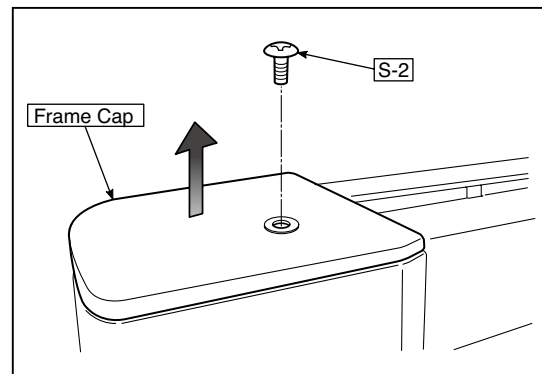

Fig.9
### 3) Remove the Frame Cap. (See Fig. 9.)
- 1.Remove the “S-2” screws shown in the figure 9 and then remove the Frame Cap.